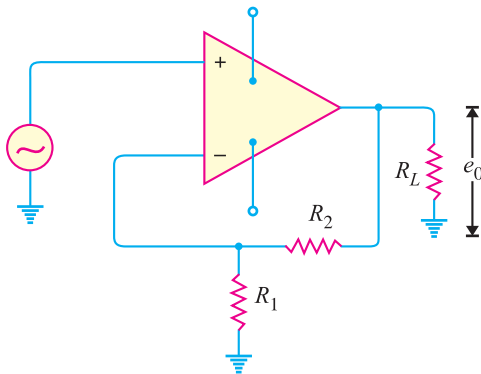

Fig. 13.30
6. Fig. 13.30 shows the negative feedback amplifier. If the gain of the amplifier without feedback is 10^5 and $R_1 = 100 \Omega$, $R_2 = 100 \text{ k}\Omega$, find (i) feedback fraction (ii) gain with feedback. **[(i) 0.001(ii) 1000]**